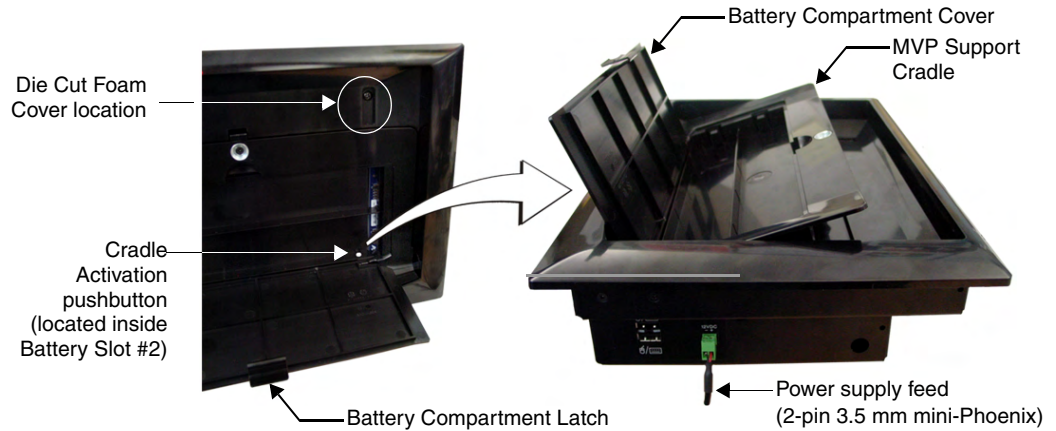

FIG. 18 Cradle activation pushbutton location and cradle angling
2. Carefully remove the previously adhered Die Cut Foam covers from the WDS backplate (FIG. 18). These must be removed to gain access to the two #6-32 Faceplate Security Screws. New covers are included with the MVP-WDS-SK Conversion Kit.
6. Press the Cradle Activation pushbutton (FIG. 18) to make the MVP Support Cradle rise upwards. The MVP Support Cradle must be angled upward to allow removal of the faceplate.
11. Adhere these two plastic Die Cut Foam covers into the two notches where the #6-32 Faceplate Security Screws are located (FIG. 18 on page 19).